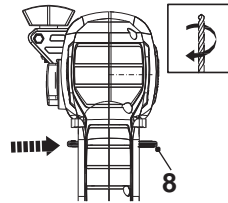

Fig. 11
2. Move the forward / reverse rotation control (8) to the right (as seen from the operator's position) in order to use the product in anticlockwise rotational mode (Fig. 11).